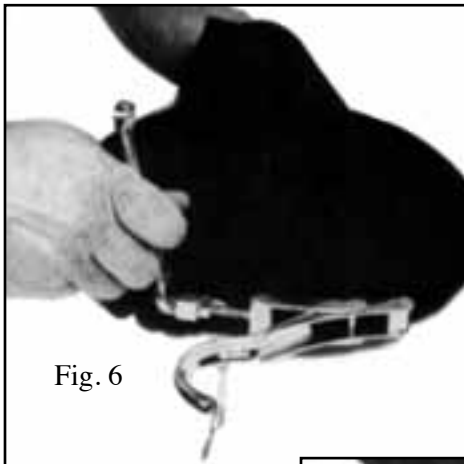
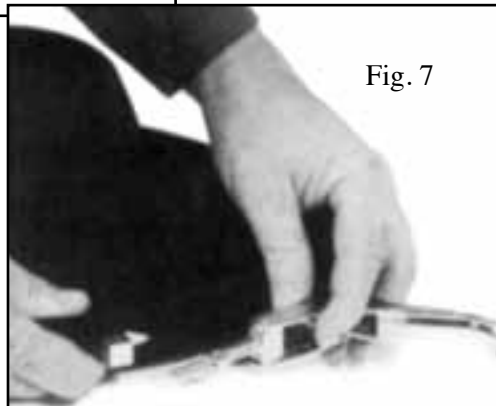

Fig. 6
Fig. 7
3) Remove the neck clamp lock nut (Fig. 6) and slip the threaded neck clamp adjustment bolt out of the retaining block. (Fig.7) Then remove the lock